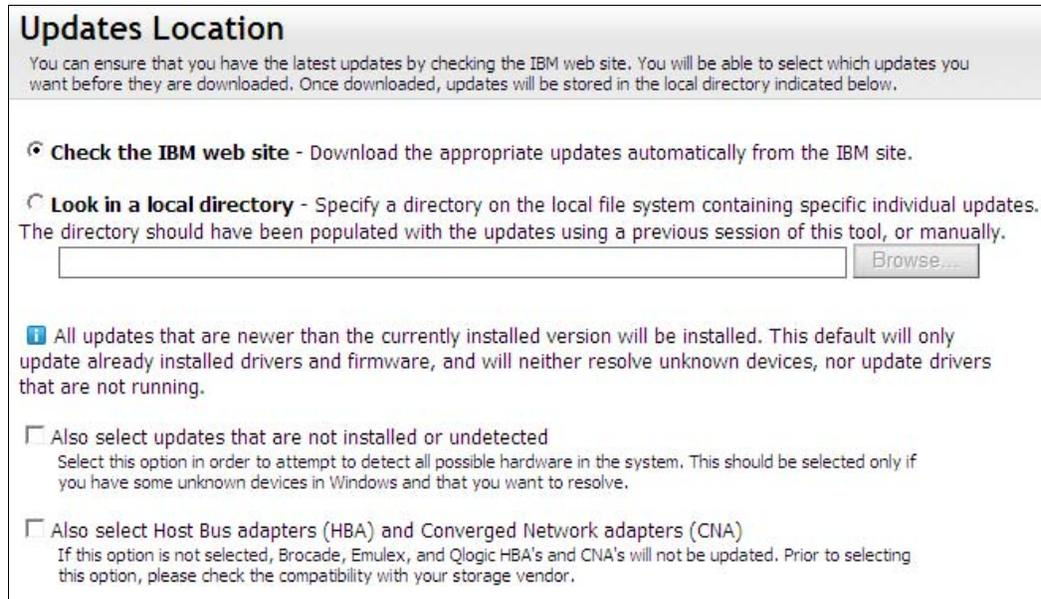

Figure 4-9 UXSPI Updates Location window
6. Next, choose where to acquire the update files from, as shown in Figure 4-9 on page 124. If a repository is not created, keep the selection **Check the website**. The default action of the tool updates all the drivers and firmware versions that are not current. Click **Next**.